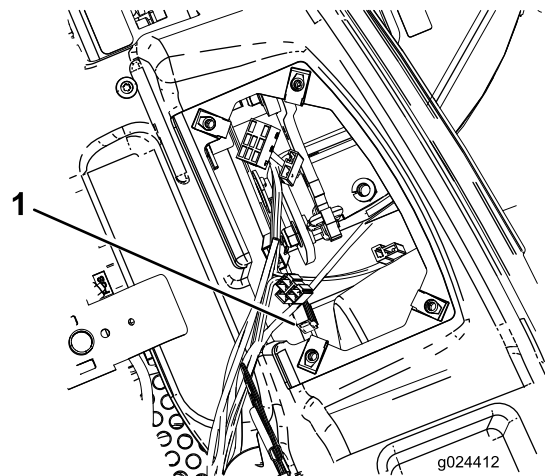

Figure 56
3. Grasp the engine fuse and pull it straight and away from the fuse block (Figure 56).